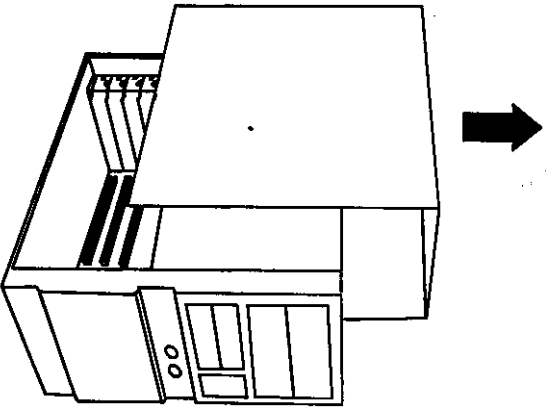

Figure 6. Remove Computer Cover
3. Remove the cover of your computer by removing the cover screws, typically located at the back of the computer (Figure 6). Your computer may look different, but the principles are the same.